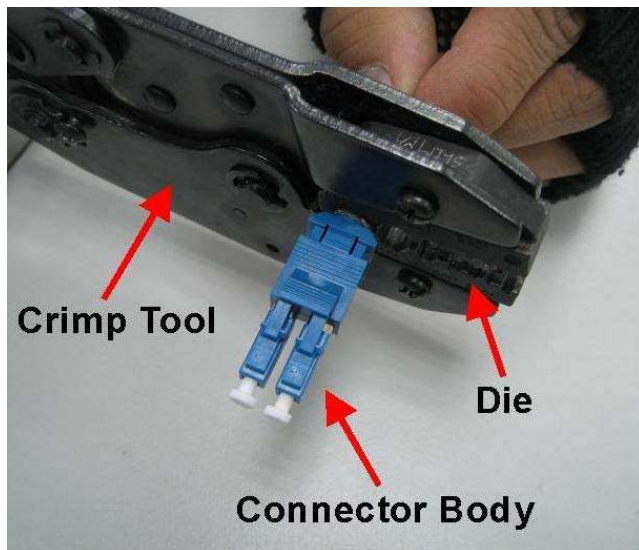

Fig 20
Step 23 Crimp the crimp tube using AFOP LC Slimpack Connector crimp tool. The hexagon die dimension is shown in Fig 20.